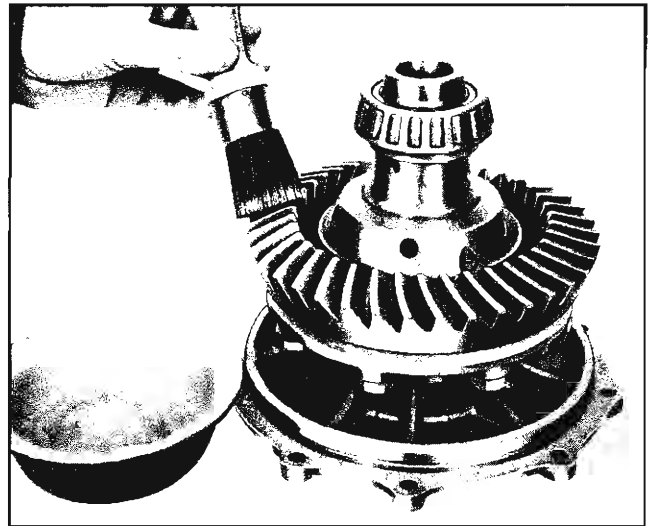

Fig. 4-62 Painting Ring Gear
18. Paint ring gear with red lead as described on page 4-28 (Fig. 4-62).